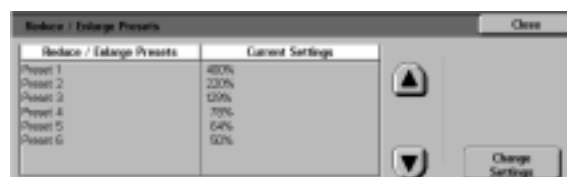

Figure 56: Reduce/Enlarge Presets screen
- 1 On the Tools screen, touch the **Reduce/Enlarge Defaults** icon to display the Reduce/Enlarge Presets screen, as illustrated in Figure 56.